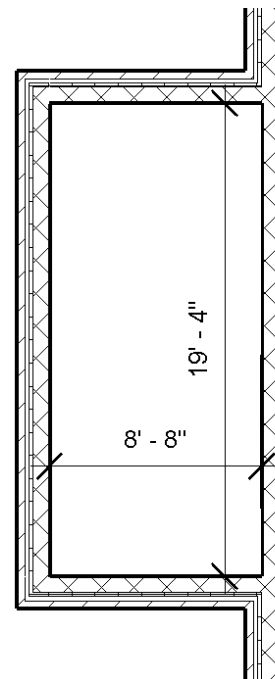

Figure 3-3.8 Revised west stair
- Draw a wall so the gypsum finish continues on the office side, using the *Align* tool if necessary (Figure 3-3.8). Use the *Measure* tool to make sure the stair shaft is the correct size; don't draw the dimensions.